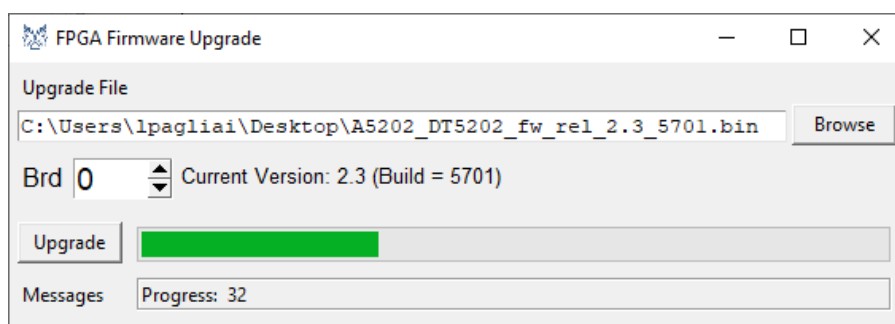

Fig. 11.4: FPGA Firmware Upgrade window while the firmware upgrade is in progress.
5. Press the "Upgrade" button. First, the FPGA firmware file in the A5202/DT5202 board is erased, then the new FPGA firmware selected by the user is written onto the on-board FLASH memory. The user can check the progress of this operation by looking at the green bar and at the "Messages" field in the FPGA Firmware Upgrade window (see Fig. 11.4).